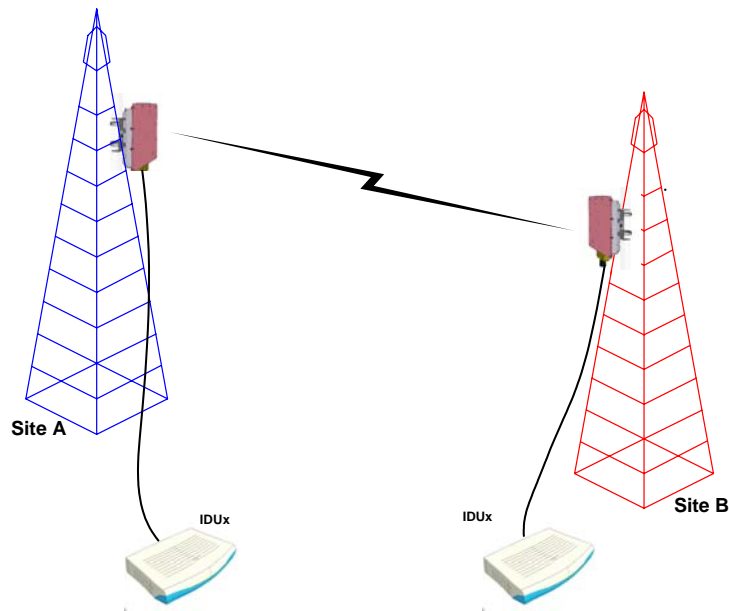

Figure D-1. WinLink1000 Link Setup
Prior to attempting WinLink alignment, install the hardware and software in accordance with the WinLink1000 Installation and Operation Manual. *Figure D-1* shows the link setup. At least two people are needed to perform the alignment procedures.
2. Connect the equipment as shown in *Figure D-1* but connect a spectrum analyzer in place of the remote WinLink1000-AIND.